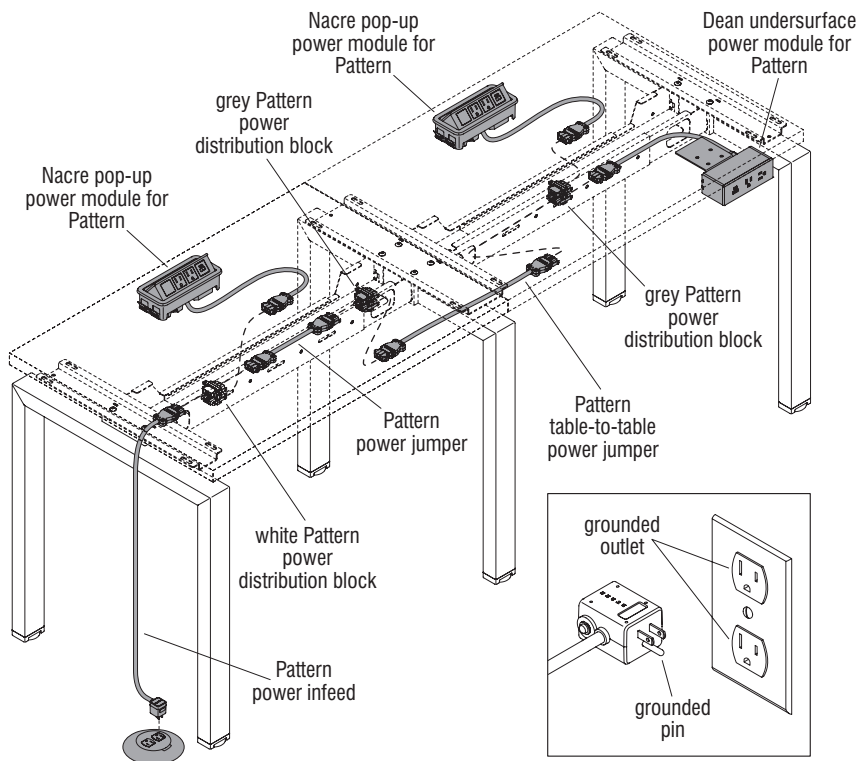

Figure 6
1. Snap the Pattern table-to-table jumper ends into each table's Pattern distribution block (Figure 6).